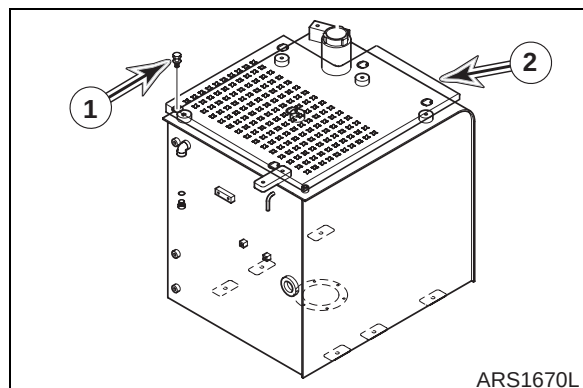

Figure 9
18. Remove six bolts (1, Figure 9) and cover (2) from fuel tank.